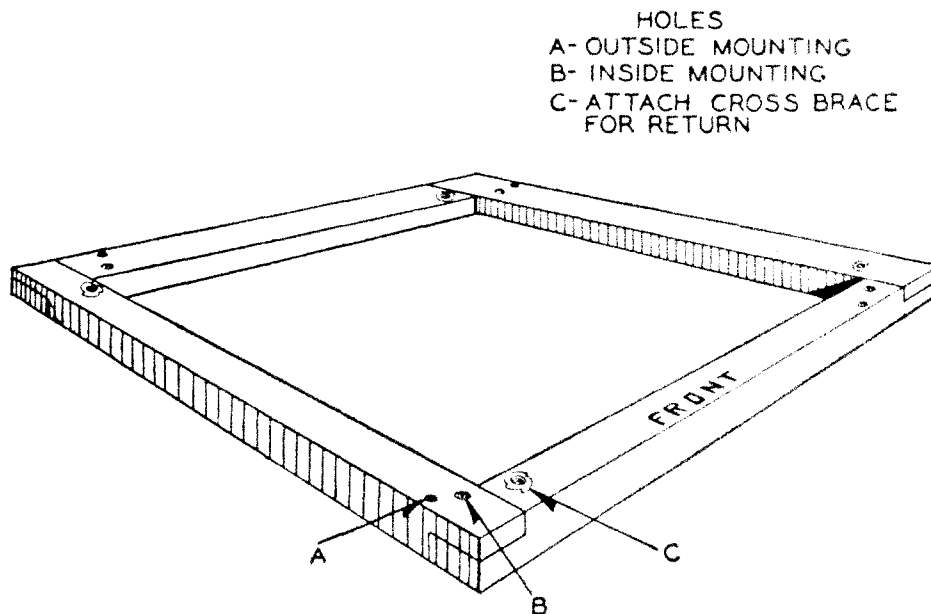
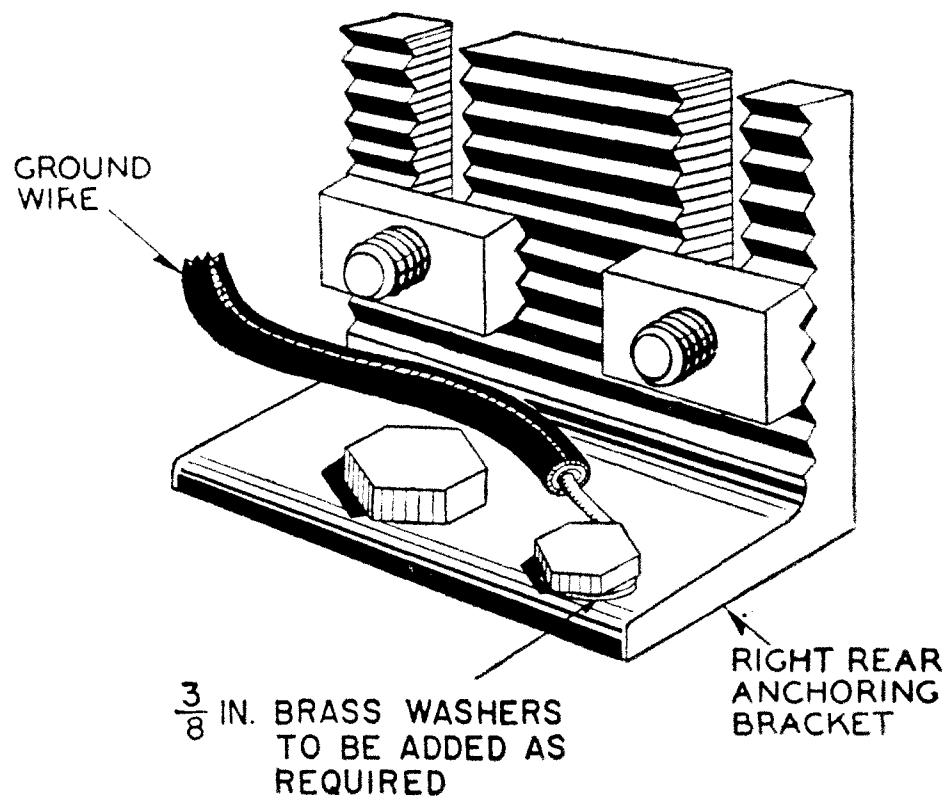

Fig. 2—Shipping Skid
Fig. 5—Adjustable Anchoring Bracket
4.02 The skid is so designed that it may be used as a guide to locate holes for anchoring the adjustable mounting brackets as in Fig. 2. These brackets may be fastened on either the inside or outside surface of the booth by using Diamond Keystone 3/8-inch by 2-inch expansion shields with 3/8-inch—16 by 2-1/2-inch hex head machine bolts, or their equivalent. The booth shall be leveled by adjusting the anchoring brackets (Fig. 5) with the KS-14962 wrench so that the booth is plumb in both directions. Observe that the clearance between the vertical edge of the closed door and the door frame of the booth is equal at both top and bottom.